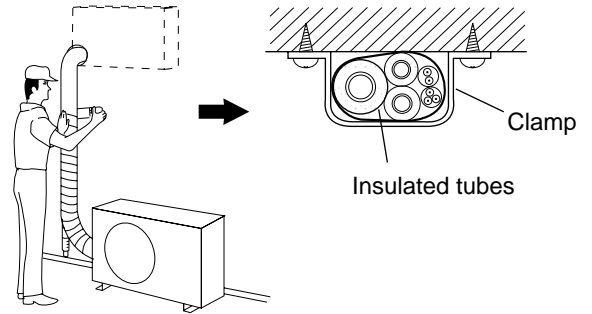

Fig. 36
- (2) Wrap the armoring tape from the bottom of the outdoor unit to the top of the tubing where it enters the wall. As you wrap the tubing, overlap half of each previous tape turn. (Fig. 36)
- (3) Clamp the tubing bundle to the wall, using 1 clamp approx. every 4 ft.